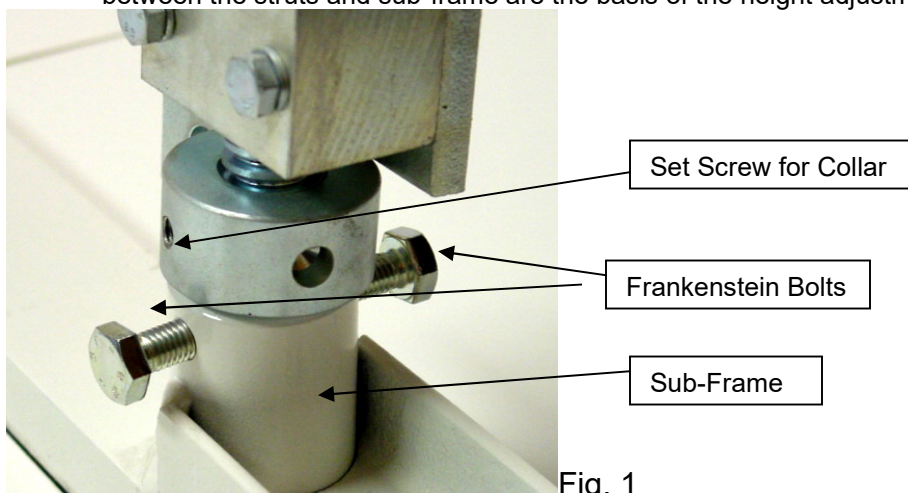

Fig. 1
- 1) Remove the lower front pad by removing the (4) bolts from the hinges at the top inside of the pad.
- 2) Locate the left and right front struts (chrome-colored) at the inside corners of the frame, and namely the bottoms of them where they connect to the sub-frame. (See Fig. 1) The connection between the struts and sub-frame are the basis of the height adjustment.